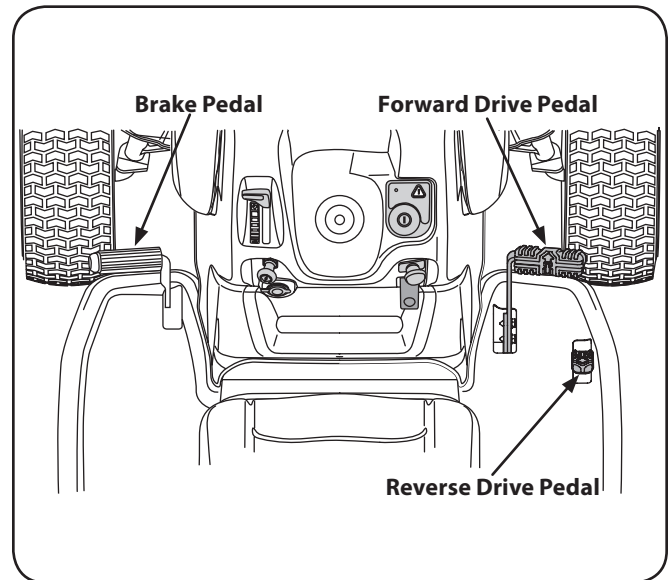

Figure 5-2
2. To travel forward: Slowly depress the forward drive control pedal until the desired speed is achieved. See Fig. 5-2.
3. To travel in reverse: Check that the area behind is clear, then slowly depress the reverse drive control pedal until the desired speed is achieved. See Fig. 5-2.